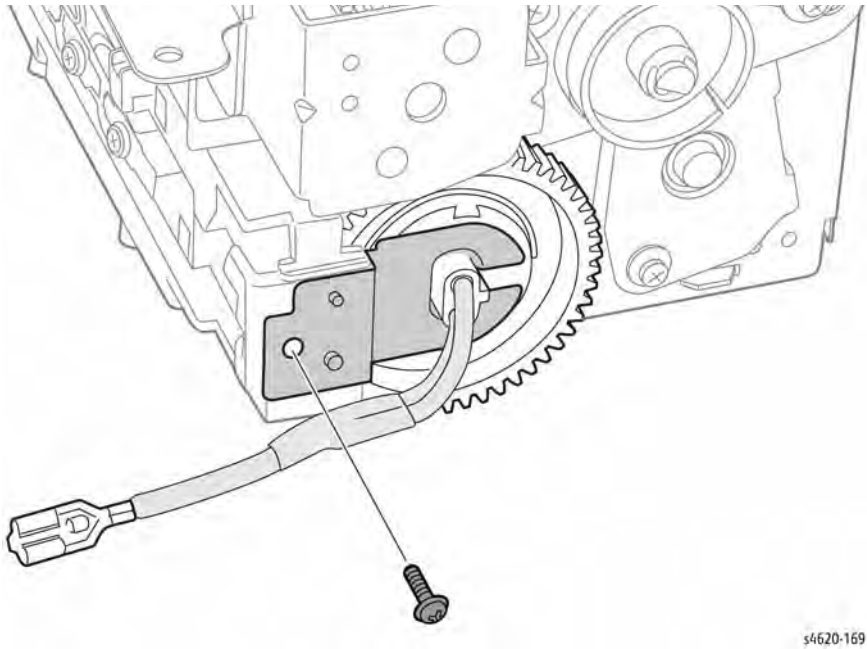

Figure 6 Remove the right side lamp bracket
8. Remove 1 screw (Black, plastic) that secures the right lamp bracket to the Fuser, Figure 6.